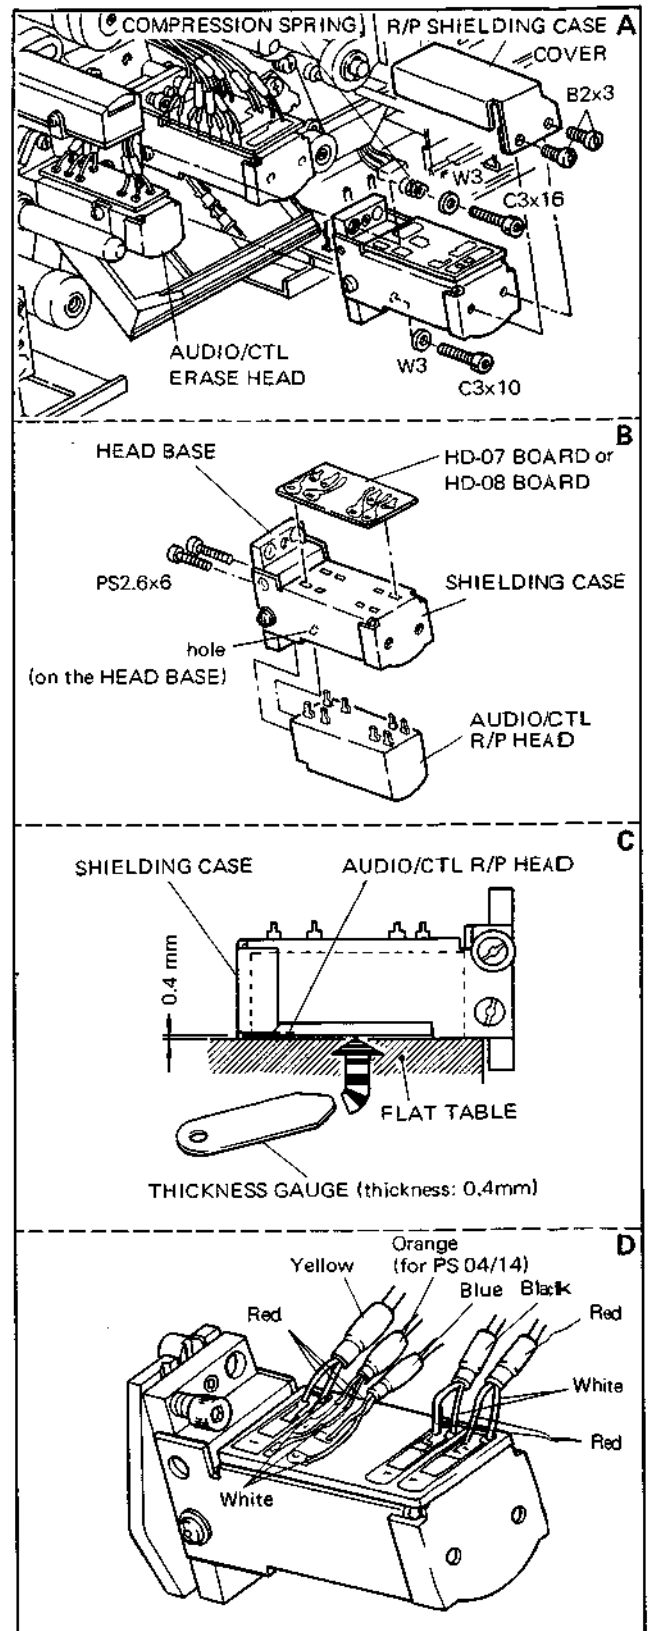

Fig. 3-56. Audio/CTL R/P Head Replacement
3. Remove the two screws (C3×16 and C3×10) shown in Fig. 3-56-A, and remove the head assembly.
- Note:** When the shielding case had been removed, fix shielding case to the head base lightly and place the head assembly as shown in Fig. 3-56-C onto a flat table, insert a thickness gauge with a thickness of 0.4 mm between the head and the flat table, depress the shielding case lightly, and tighten the previously lightly tightened screws securely.
8. Install the head assembly so that the hole shown in Fig. 3-56-B is placed onto the pin on the head table.
9. Solder the leads to the head referring to Fig. 3-56-D.